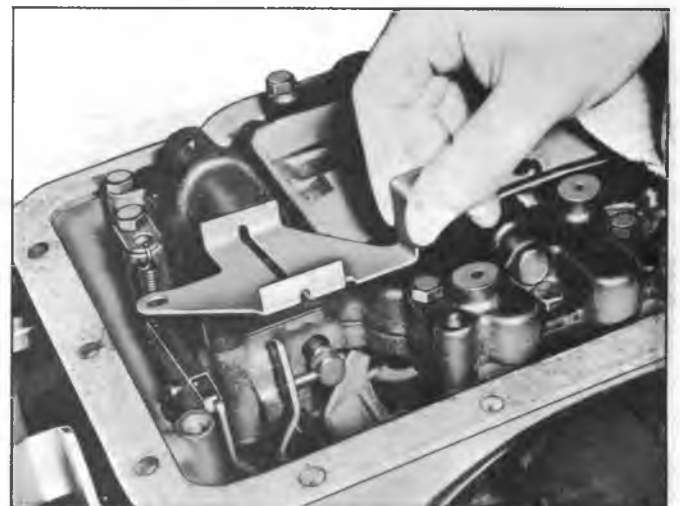

Fig. 34PG—Installing Detent Guide Plate
31. Install the guide plate (fig. 34PG) making sure that the inner lever properly picks up the manual valve. Install attaching bolts.